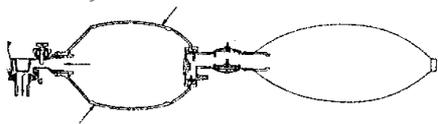

Figure 3. Exhalation
Exhalation begins when the patient exerts positive pressure (during passive exhalation) on the patient side of the duckbill valve (F) or when the operator releases pressure from the silicone bag (B). The valve lifts directing the patient's expiratory gases through the expiration ports (G) of the non-rebreathing valve (see figure 3).